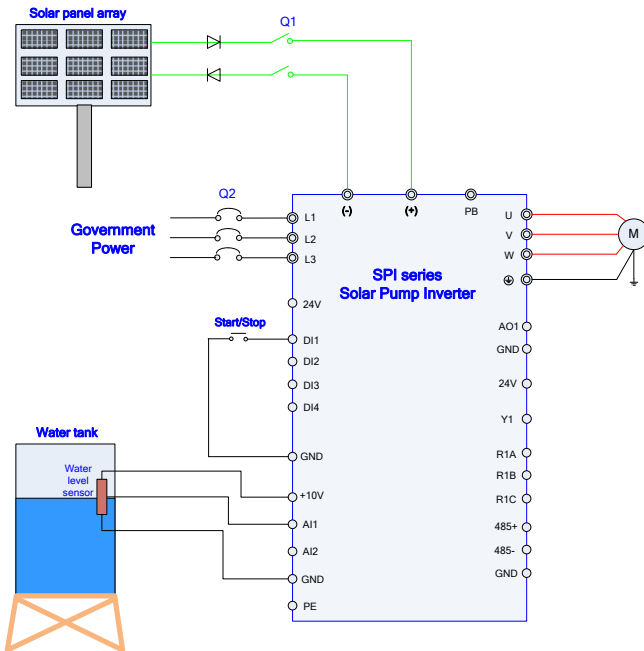

Figure 2-2 Grid or Generator Power Supply Wiring Diagram
- 1. Wirings according to Figure 2-2 system wiring diagram, check and confirm to be correct.